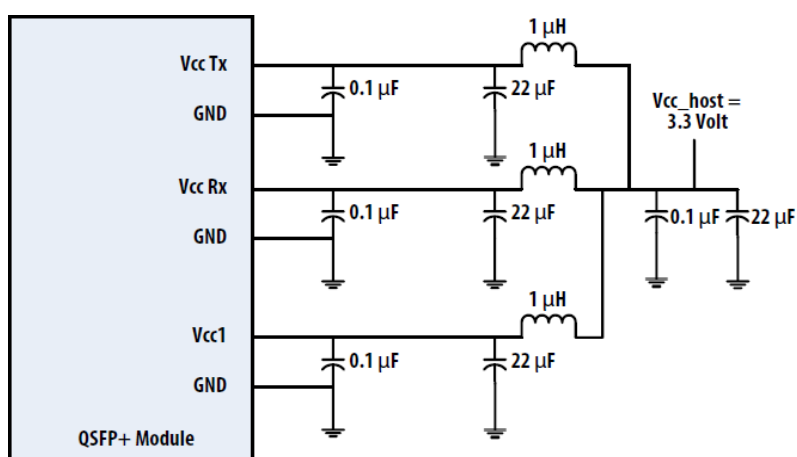

Figure 3. Recommended Power Supply Filter
2. VccRx, Vcc1 and VccTx are the receiver and transmitter power suppliers and shall be applied concurrently. Recommended host board power supply filtering is shown in Figure 3 below. Vcc Rx, Vcc1 and Vcc Tx may be internally connected within the QSFP28 transceiver module in any combination. The connector pins are each rated for a maximum current of 1000mA.